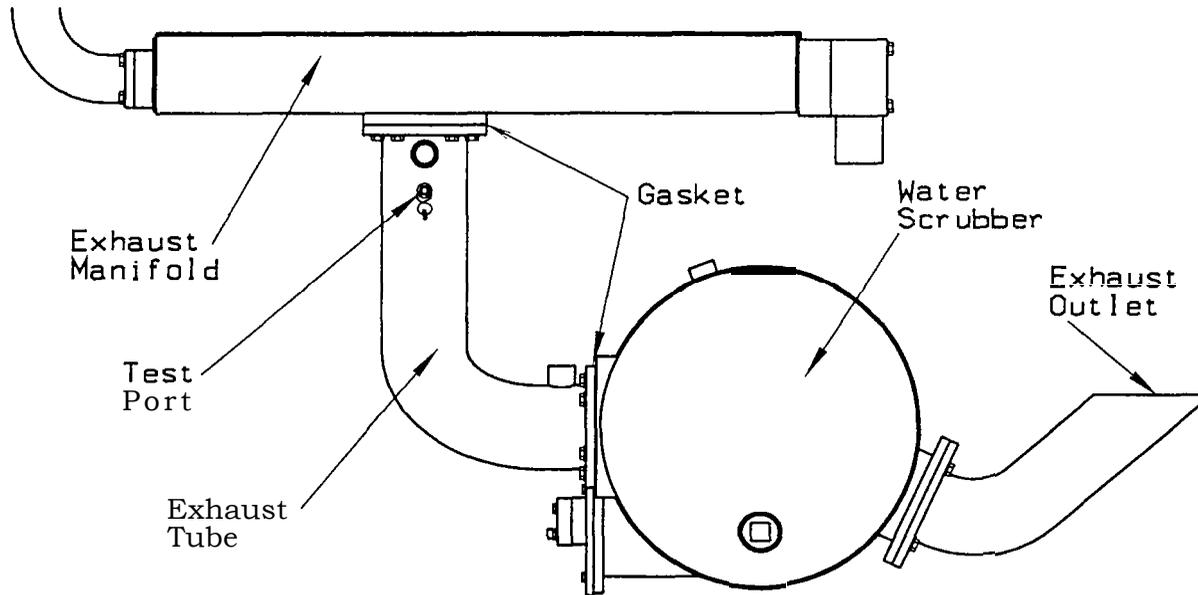

Figure 5 (Top View)
1. () (WEEKLY) Components appear to be the same as shown in figures 5 & 6.